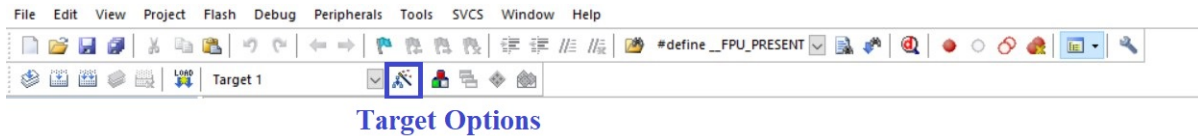

Figure 1.17: Target Options
2. In Keil μ Vision, *Target Options* need to be changed for loading code on the microcontroller (Figure 1.17).